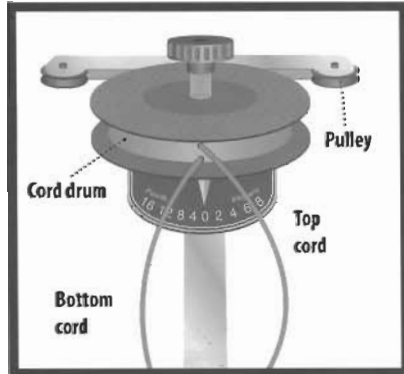
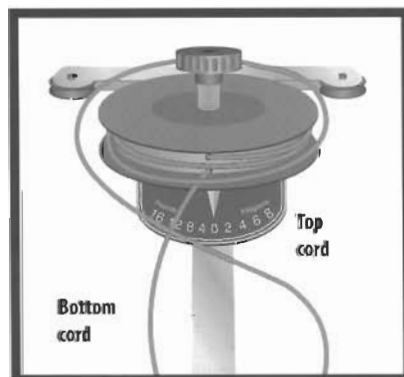

Figure 1
Figure 2
4. Wrap all of the cord coming out of the top hole, (Figure 1) counterclockwise around the cord drum until there is no more left to wind (Figure 2). Do not be concerned if it looks tangled; it will smooth out later.